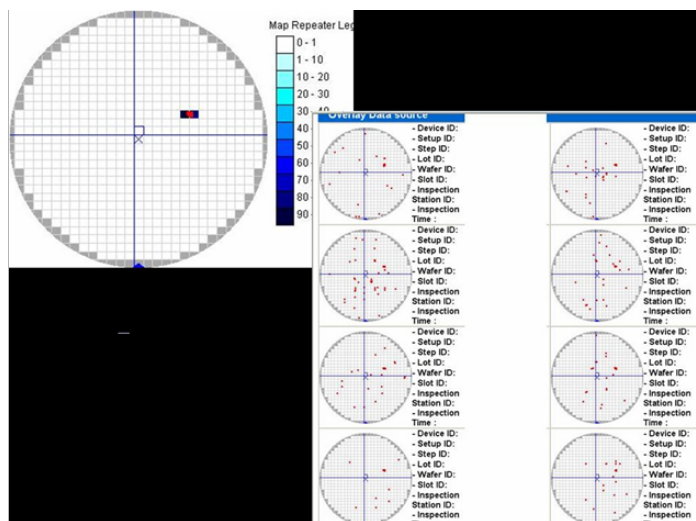

Figure 7 Chuck defocus from stepper
- Stepper chuck defocus – Figure 7